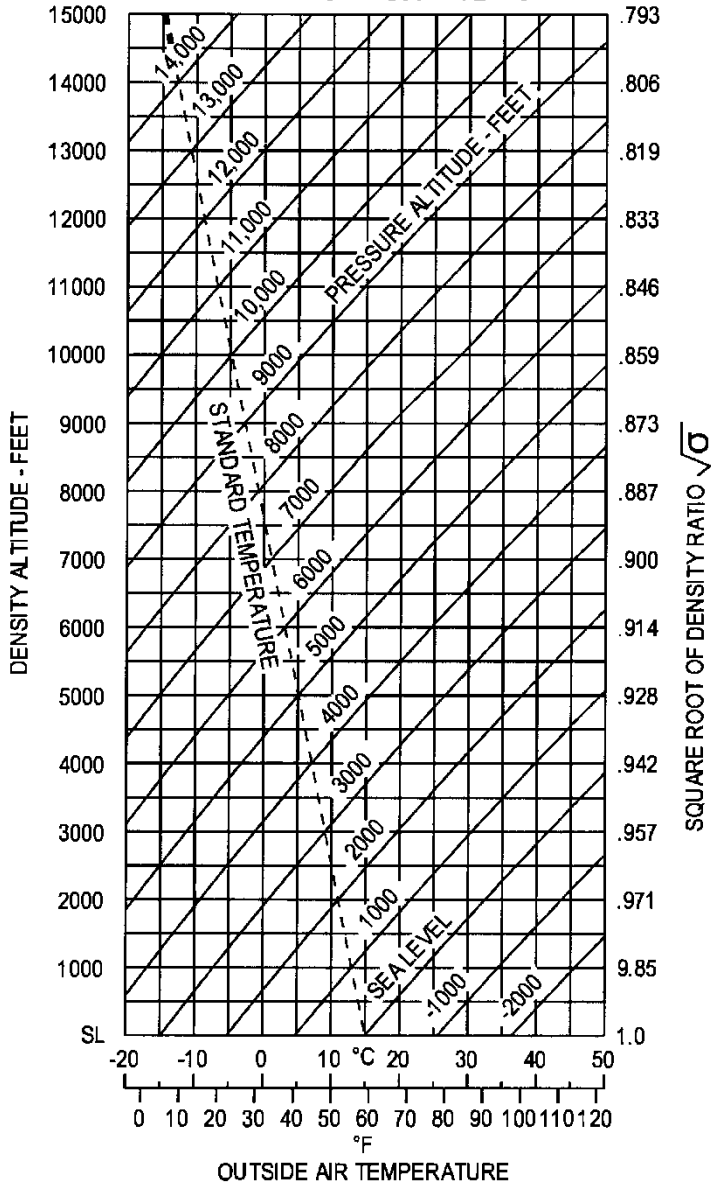

Figure 4-2. Density Altitude Chart
1. The Density Altitude Chart (Figure 4-2) allows a quick estimation of the density altitude when the pressure altitude and OAT are known.